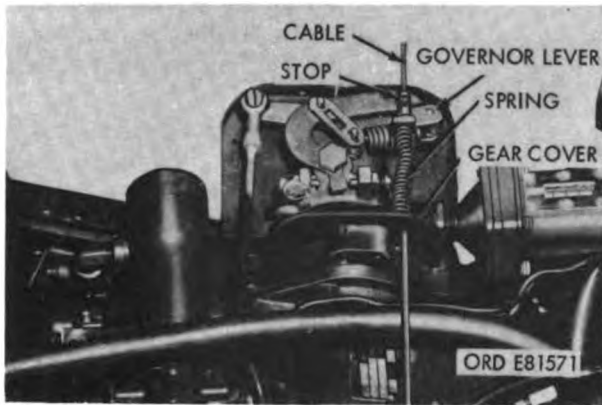

Figure 2-27. Governor cover removed.
- (2) Loosen screw in stop on end of throttle control cable and pull cable out of stop, governor lever, spring and gear cover flange (fig. 2-27).